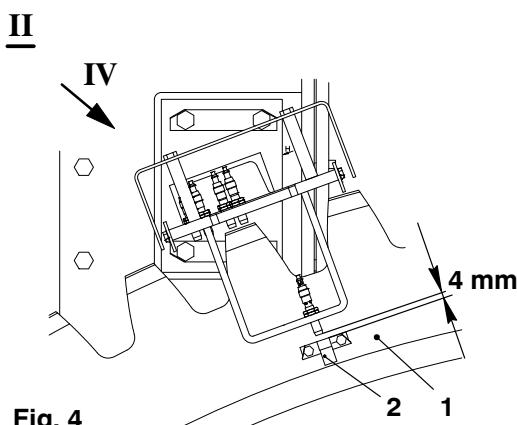

Fig. 4
- 3) Screw in the new proximity sensor (steel) until the sensor touches the crank angle mark (2, Fig. 4) as shown below. (Do not use any force).